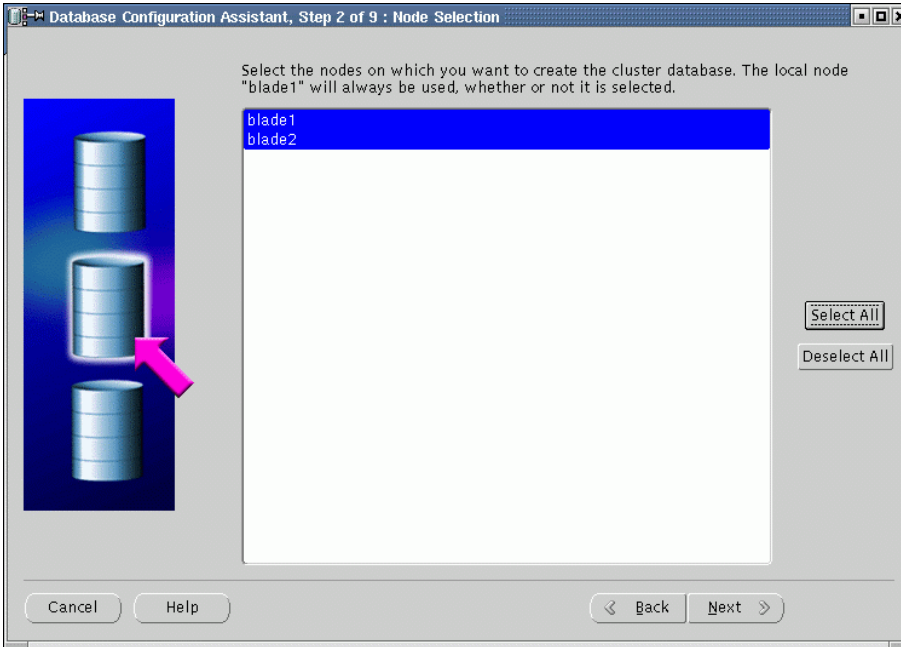

Figure 78. dbca node selection
- The next screen, Figure 78, asks for the nodes on which to create the database. In our case, blade1 and blade2 are listed, as they should be. Click **Select All**, then **Next** to continue. If your nodes are not listed, use the `lsnodes` command to determine which nodes are active. Cancel dbca, resolve the problem, and restart dbca.